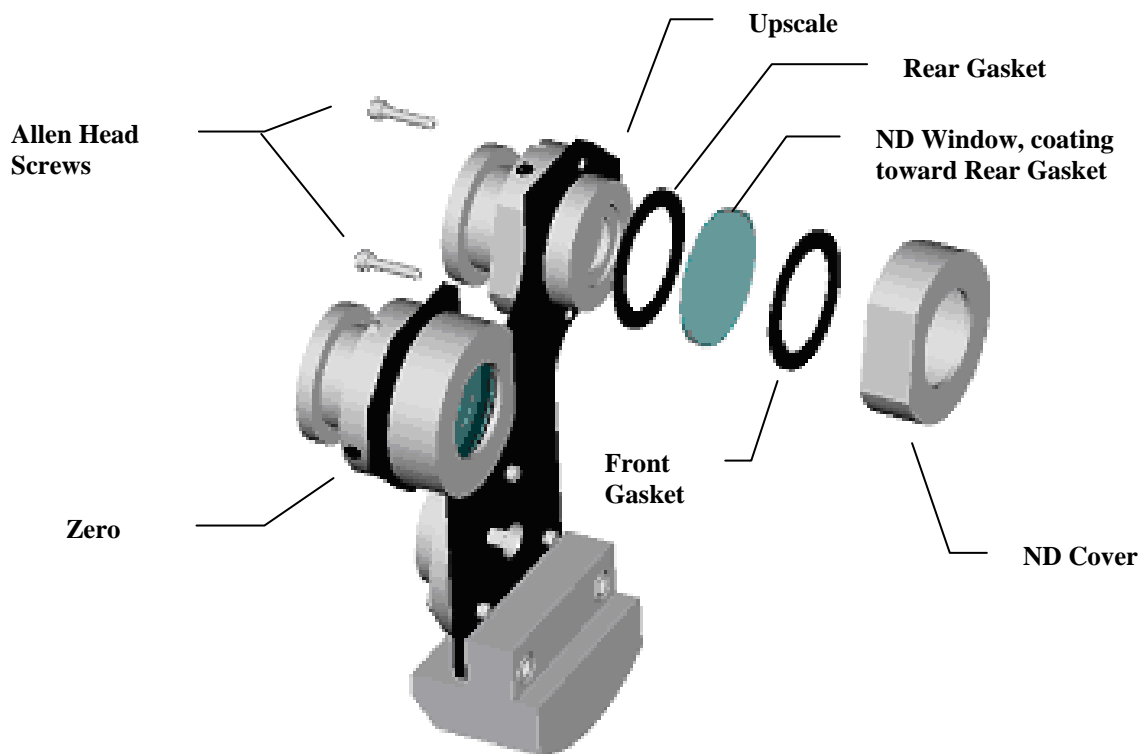

Figure 9-7
2. Remove the 2 Allen head screws holding the ND cover on the appropriate Iris. See Figure 9-7.
3. Remove the ND cover, front gasket, ND window and rear gasket. See Figure 9-7. (See note below for .2 ND windows)
4. Re-assemble the rear gasket, new ND window, front gasket and ND cover as shown in Figure 9-7. **Note: The ND window must be installed with the coating side IN toward the rear gasket.**